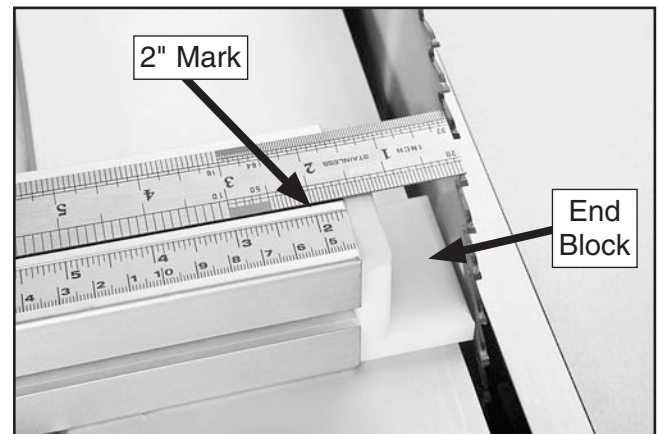

Figure 50. Setting the correct space between the crosscut fence and blade.
56. Using the precision ruler against a tooth of the blade, adjust the fence so that the 2" mark on the fence scale is exactly 2" from a blade tooth, as shown in Figure 50.